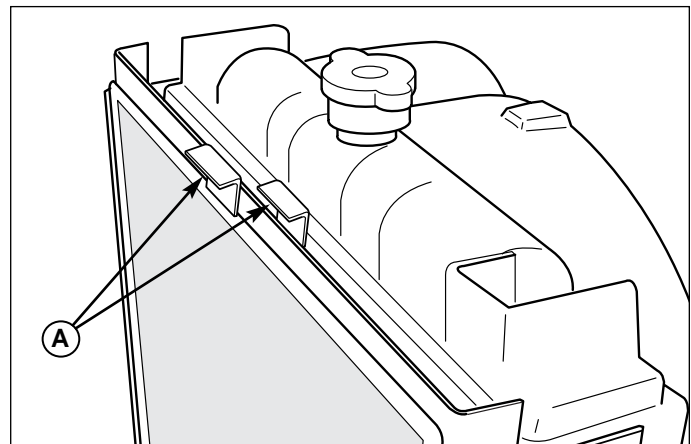

Figure 12. Radiator Screens
2. Slide both radiator screens (A, Figure 12) up and out of the mounting tracks.